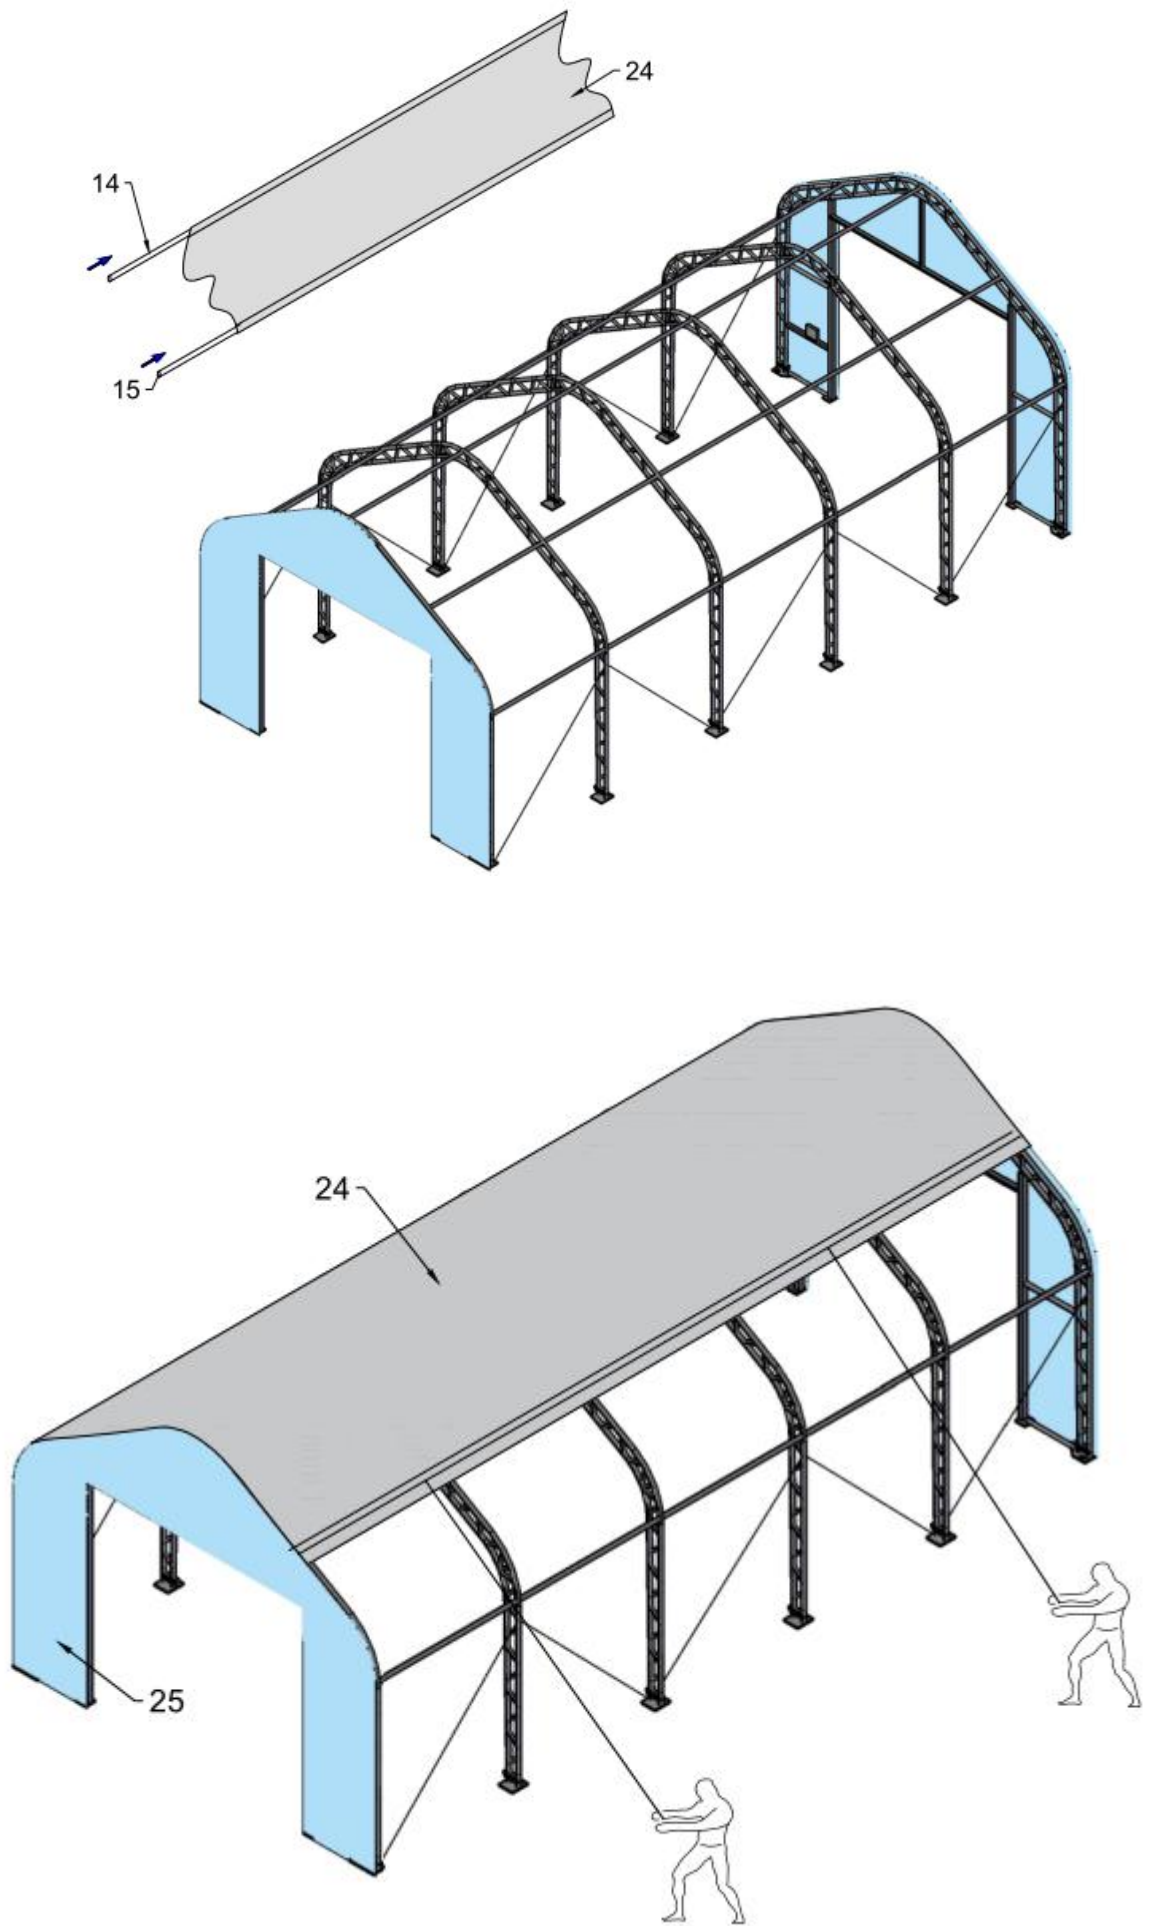

Figure 8
1. When Roof cover is over top of Frame assembly (see Figure 8&9), insert Tensioning tubes (No.14) into pockets along both sides of Roof cover, cut opening for Nylon band for ratchet, find the Nylon band over tube feed end into tie down to ratchet (No.21).